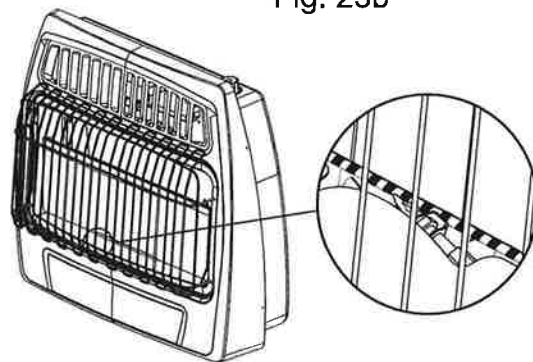

Fig. 24 - Pilot Flame Location
6. With control knob depressed, repeatedly push down the piezo ignitor "⚡" until the pilot lights. The pilot is visible centered below the plaques, behind the front grill. (See Fig. 24)
7. Keep control knob depressed for (30) seconds after pilot lights. Release control knob.
6. With control knob depressed, repeatedly push down the piezo ignitor until the pilot lights. The pilot is visible centered below the plaques, behind the front grill. (See Fig. 24)
7. Keep control depressed for (30) seconds after pilot lights. Release control knob.